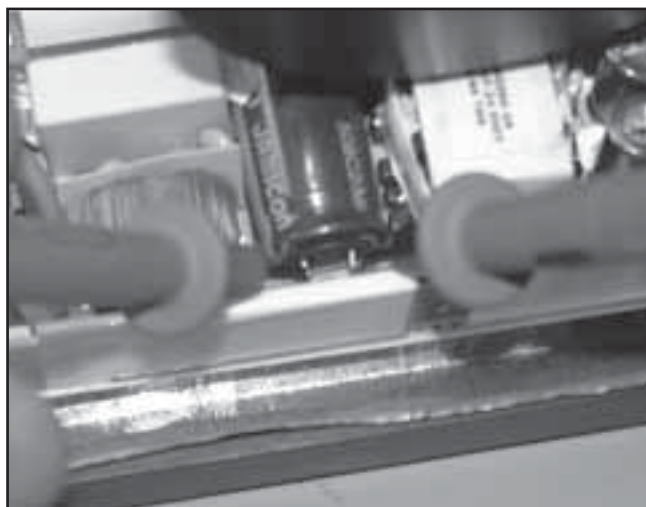

FIGURE 6.52
7. Using the Multimeter set to VDC discharge the Power Supply Capacitor at C4. See Figure 6.52.